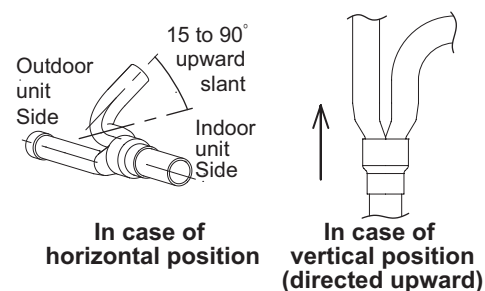

Fig. 2-7-11
- The distribution joint can be either horizontal or vertical. (Fig. 2-7-11)